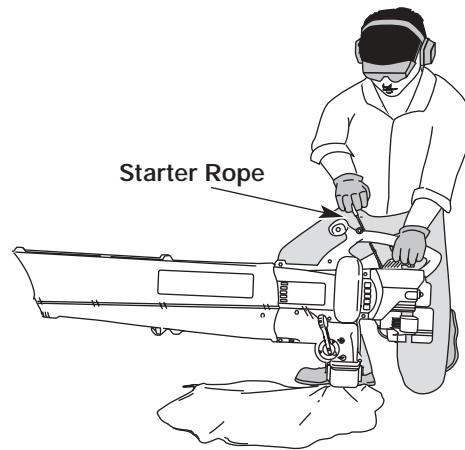

Fig. 12
- Pull starter rope briskly (Fig. 12). Continue pulling until the engine sounds as though it wants to run (normally 2 to 5 pulls).
- Pull starter rope briskly 1 to 3 times to start the engine (Fig. 12).